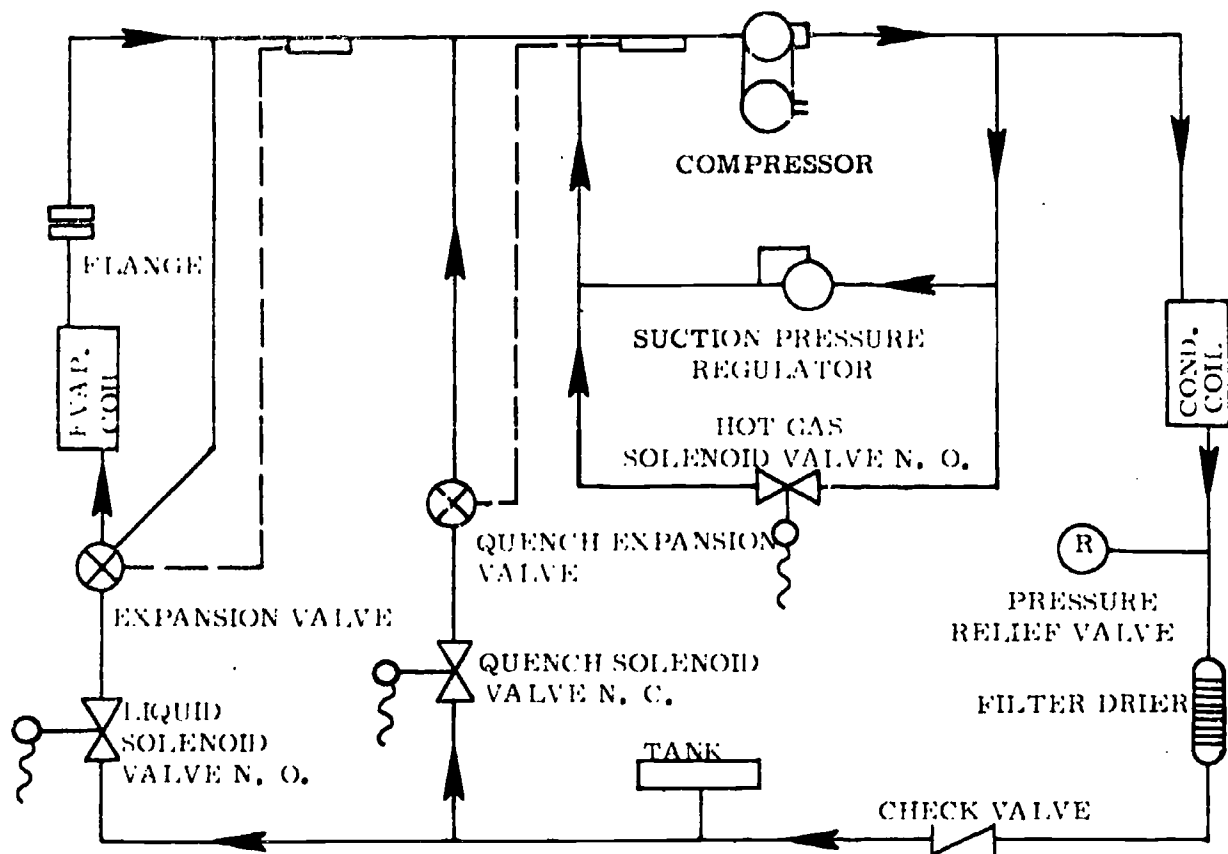

Fig 4-4. Refrigeration schematic A/E 32C-17.
a. Refrigeration system. The refrigeration system includes a hermetically sealed motor compressor, condenser, evaporator, thermal expansion valves, solenoid valve, filter-drier, charging valves, regulating valve, pressure relief valve, and a high-pressure cutout control. Fig 4-4 shows the refrigeration schematic for the A/E 32C-17 air conditioner. This refrigeration schematic is the same in each Trane military air conditioner.